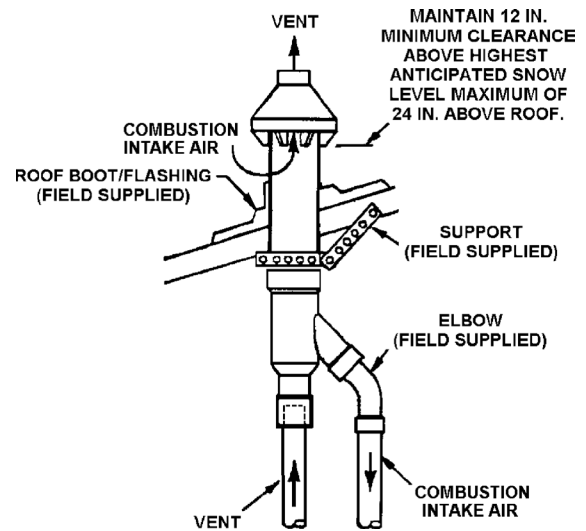

Figure: 28
- Secure assembly to roof structure as shown in "Figure: 28" using field supplied metal strapping or equivalent support material.
NOTE: Ensure termination height is above the roof surface or anticipated snow level as shown in "Figure: 28".
- Cement water heater combustion air intake and vent pipes to concentric vent termination assembly. See "Figure: 28" for proper pipe attachment.